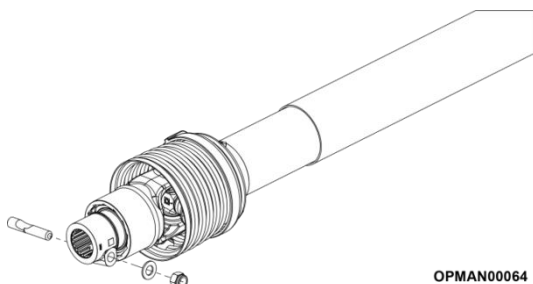

Figure 4.11 – Remove Taper Pin
- 4.5.1.1 Proceed to remove the taper pin, flat washer and nut from the machine end of the input PTO shaft. See Figure 4.11.
- 4.5.1.8 To then completely remove the shaft, remove the taper pin, flat washer and nut from the machine end; see Figure 4.11.